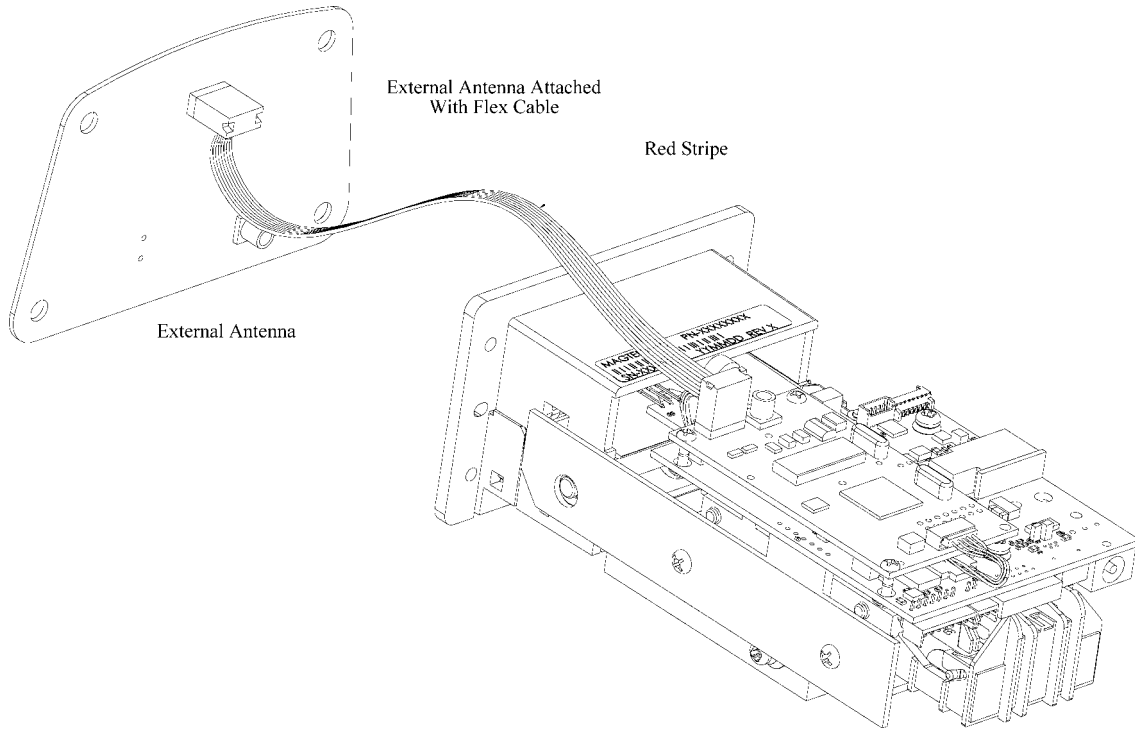

Figure 13. Using External Antenna with LED's (Ribbon Cable)
- Flat Ribbon Cable – this cable is only 7.5” (19cm) but all 4 of the LEDs are supported (see Figure 13)